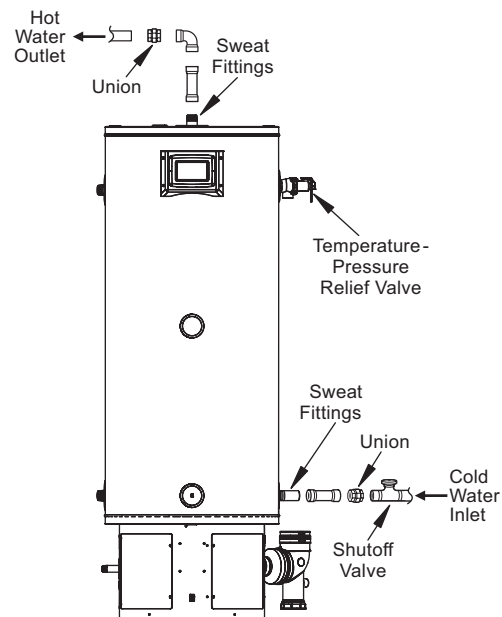

Figure 9
**NOTE:** To protect against untimely corrosion of hot and cold water fittings, it is strongly recommended that di-electric unions or couplings be installed on this water heater (see Figure 9) when connected to copper pipe.
Figure 9 also shows the typical attachment of the water piping to the water heater. The water heater is equipped with 1" NPT